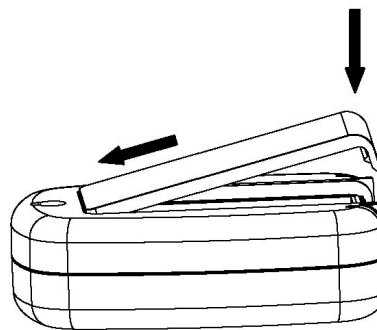

Figure 3
3. Close the battery door as shown in Figure 3. Make sure the gasket (around the battery compartment) is properly seated in its trace prior to closing the door.